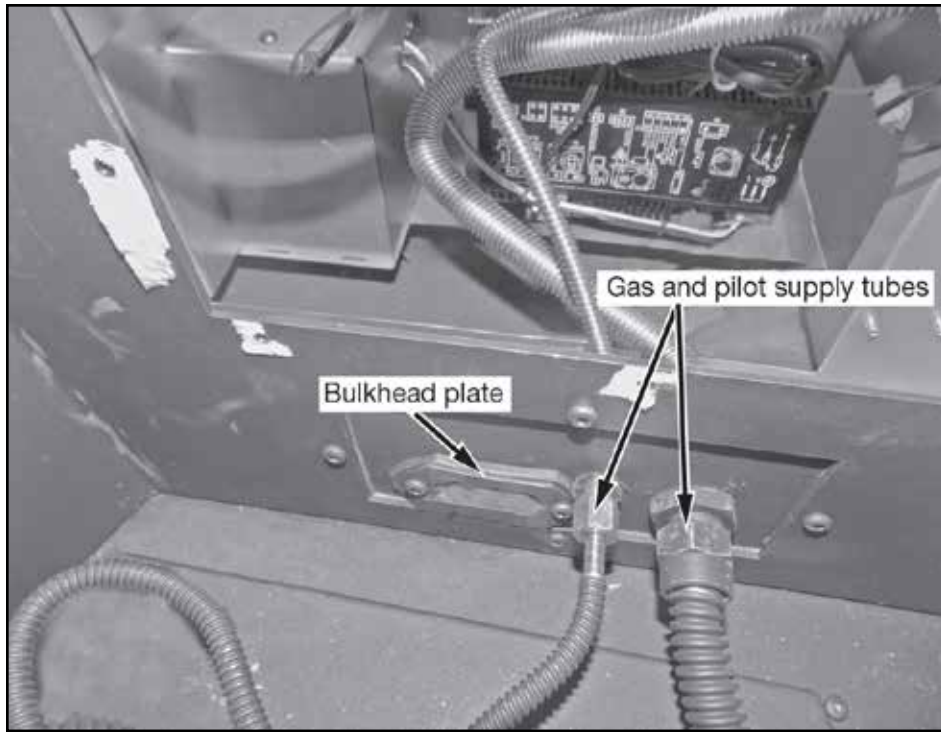

Figure 6: Gas and supply tubes.
4. Attach the pilot and gas supply tubes to the bulk head fitting and tighten (Figure 6). Ensure the connections are gas tight.